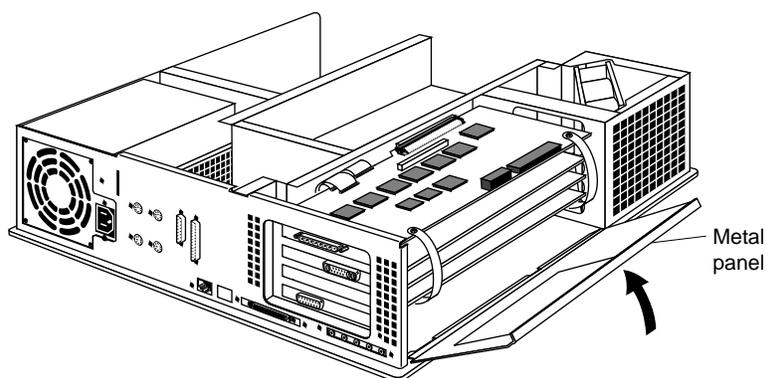

Figure 2-32 Closing the Metal Panel
5. Lift the metal panel and snap it down into place (Figure 2-32).